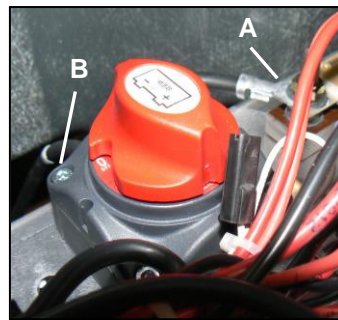

Figure 8-11
2. Remove the other Disconnect Switch cable (Figure 8-11 A) from the fuse block.
3. Remove the four 4 mm socket head cap screws (Figure 8-11 B) attaching the Disconnect Switch.
5. Next put on the appropriate cables, a lock washer and the second nut. Torque the second nut to 70 in. lbs. Run the wires together as shown in Figure 8-11.